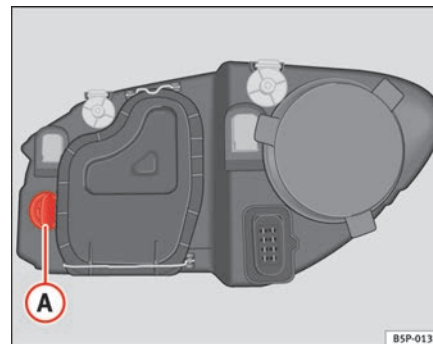

Fig. 163 Turn signal lamps
- Rotate the lamp holder ⇒ fig. 163 Ⓐ to the left and pull.